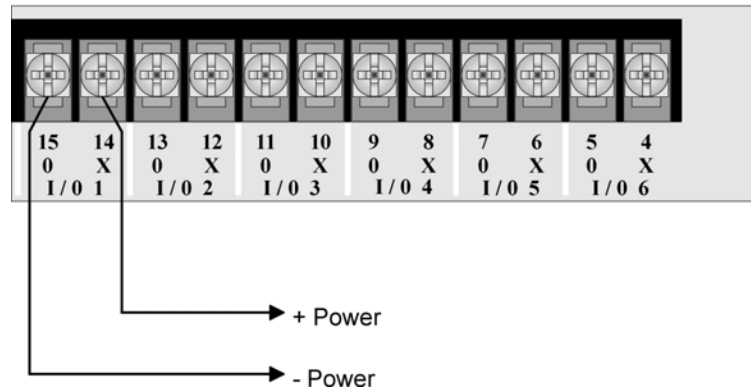

Figure 3.17 Flexput Circuits Used as Auxiliary Power
1. Wire the Flexput circuit(s) that will be used for auxiliary power. See Figure 3.17 for location of Flexput circuits.